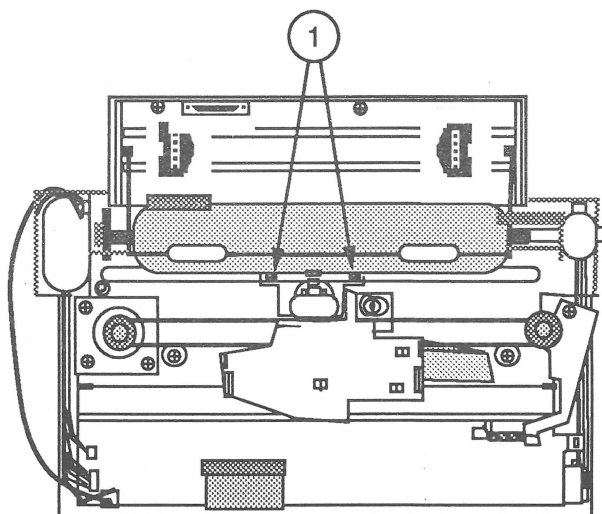

FIGURE 10
9. Remove the two screws (Figure 10, #1) that hold the paper guide in place, and remove the paper guide.